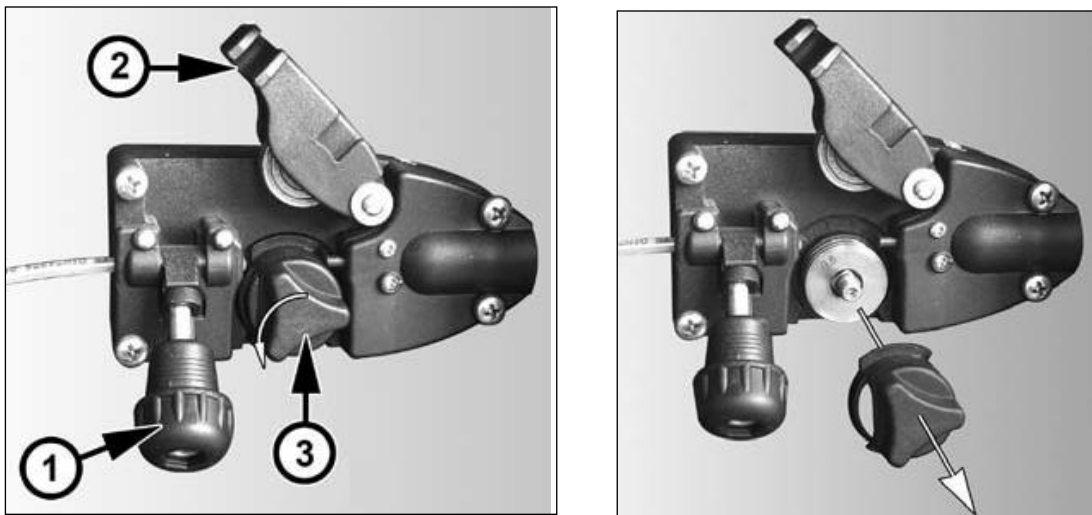

Figure 2
3. **INSTALL THE WIRE ROLLER** - The wire roller has been factory installed. However, check to make certain the correct wire groove is in place to accommodate the size of wire you are using. Open the wire feed compartment. Adjust the drive roller according to the following steps, see the following images regarding the wire feeder structure (figure 2).
- b. Remove the drive tension by loosening the drive tension adjusting knob (1) and lifting the Drive Tension Adjustor away from the Drive Tension Arm (2). Lift the Drive Tension Arm away from the Drive Roller (3).
- d. Rotate the Drive Roller Cap (3) counter-clockwise and remove it from the Drive Roller.